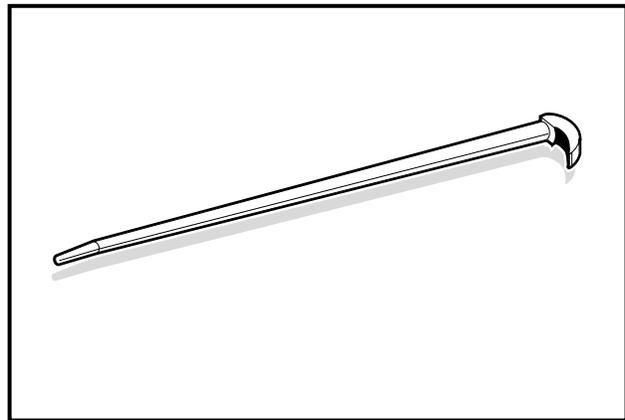
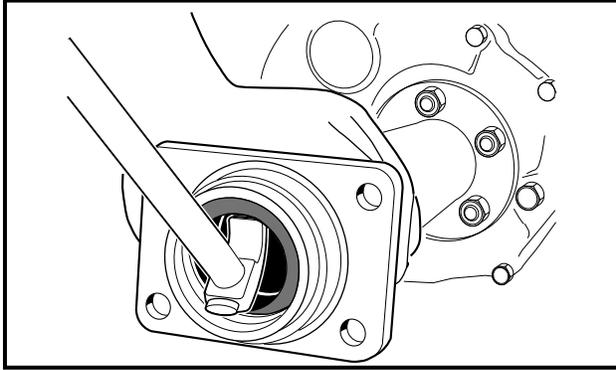

Figure 16-2 Rolling Wedge Bar
Figure 16-5 Seal Lip
5. Use a 16 in. (40 cm) rolling wedge bar (**Figure 16-2, Page 16-2**) to remove oil seal. Insert wedge bar underneath the seal lip and pry out oil seal (17) (**Figure 16-5, Page 16-5**). **See following CAUTION.**